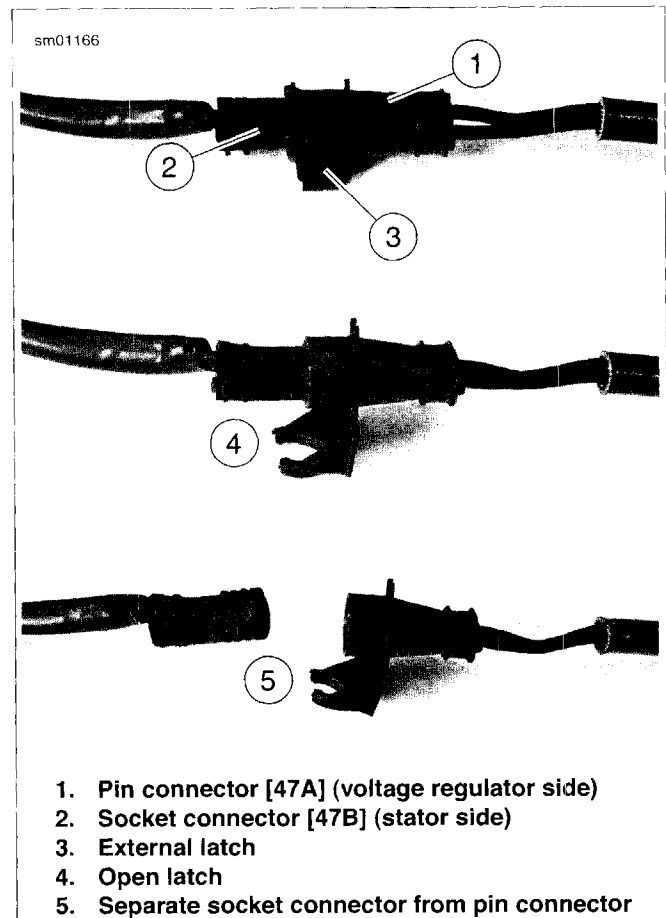

Figure 6-2. Separating Connector Halves (Stator Connector Shown)
2. See Figure 6-2. Unplug stator connector [47]. Lift external latch (3) on pin housing and separate connector halves (5).